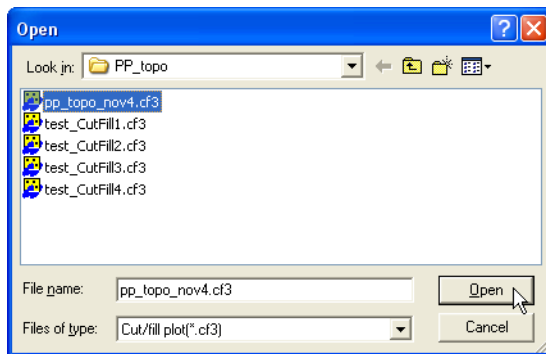

Figure 10-1. Open Cut/fill File
2. On the **Open** dialog box, navigate to the location of the file, select the file type as Cut/fill plot (\*.cf3), select the desired file, and click **Open** (Figure 10-1).